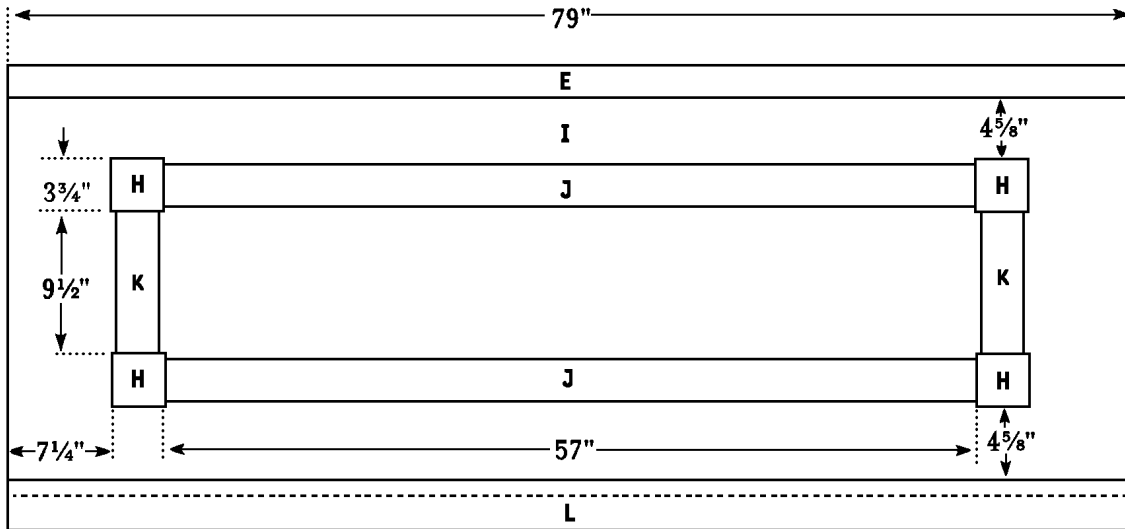

Figure 5
5. Cut two Short Molding (G) from 3-inch-wide beaded molding, each measuring 5 inches.
6. Referring to Figure 5, position the Long and Short Moldings (F and G) and four Decorative Squares (H) on the Headboard (D). Note that the 3-inch-wide moldings must be centered width-wise on the 3-3/4-inch-wide decorative squares. Nail through each corner of the four Decorative Squares (H) using 1-1/4" finishing nails. Nail through the molding using 1" finishing nails. Use two nails on each of the short Moldings (G), and eleven on each of the Long Moldings (F).
1. Cut one Footboard (I) from $\frac{3}{4}$ " plywood measuring 79 x 28 inches.
2. Locate the Top Rail (E) that you set aside earlier, and center the Top Rail (E) over the one 79-inch-edge of the Footboard (I). Apply glue to the meeting surfaces, and nail through the Top Rail (E) into the edge of the Footboard (I) using 2" finishing nails spaced every 6 inches.
3. Cut two Long Footboard Moldings (J) from 3-inch-wide beaded molding, each measuring 57 inches.
4. Cut two Short Footboard Moldings (K) from 3-inch-wide beaded molding, each measuring 9-1/2 inches.
5. Referring to *Figure 5*, position the Long and Short Footboard Moldings (J and K) and four Decorative Squares (H) on the Footboard (I). Note that the 3-inch-wide moldings must be centered width-wise on the decorative squares. Nail through each corner of the four Decorative Squares (H) using 1-1/4" finishing nails. Nail through the molding using 1" finishing nails. Use two nails on each of the Short Footboard Moldings (K), and eleven on each of the Long Footboard Moldings (J).
6. Cut one Base Rail (L) from 1 x 4 pine measuring 79 inches.
- Apply glue to the meeting surfaces, and attach the Base Rail (L) to the bottom of the Footboard (I). The top of the Base Rail (L) should overlap the bottom of the Footboard (I) 1 inch. Use 1-1/4" finishing nails spaced every five inches.